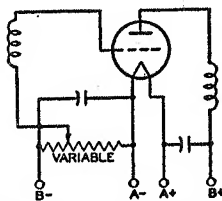
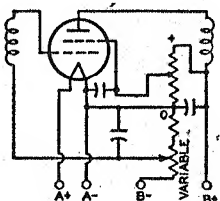

Fig. 114—Amplifier stage using a variable cathode-bias resistor for volume control.
Fig. 116—Amplifier stage using a bleeder circuit and potentiometer for volume control.
**Grid-bias variation** for the rf and if amplifier stages is a convenient and frequently used method for controlling receiver volume. The variable voltage supplied to the grid may be obtained: (1) from a variable cathode resistor as shown in Figs. 114 and 115; (2) from a bleeder circuit by means of a potentiometer as shown in Fig. 116; or (3) from a bleeder circuit in which the bleeder current is varied by a tube